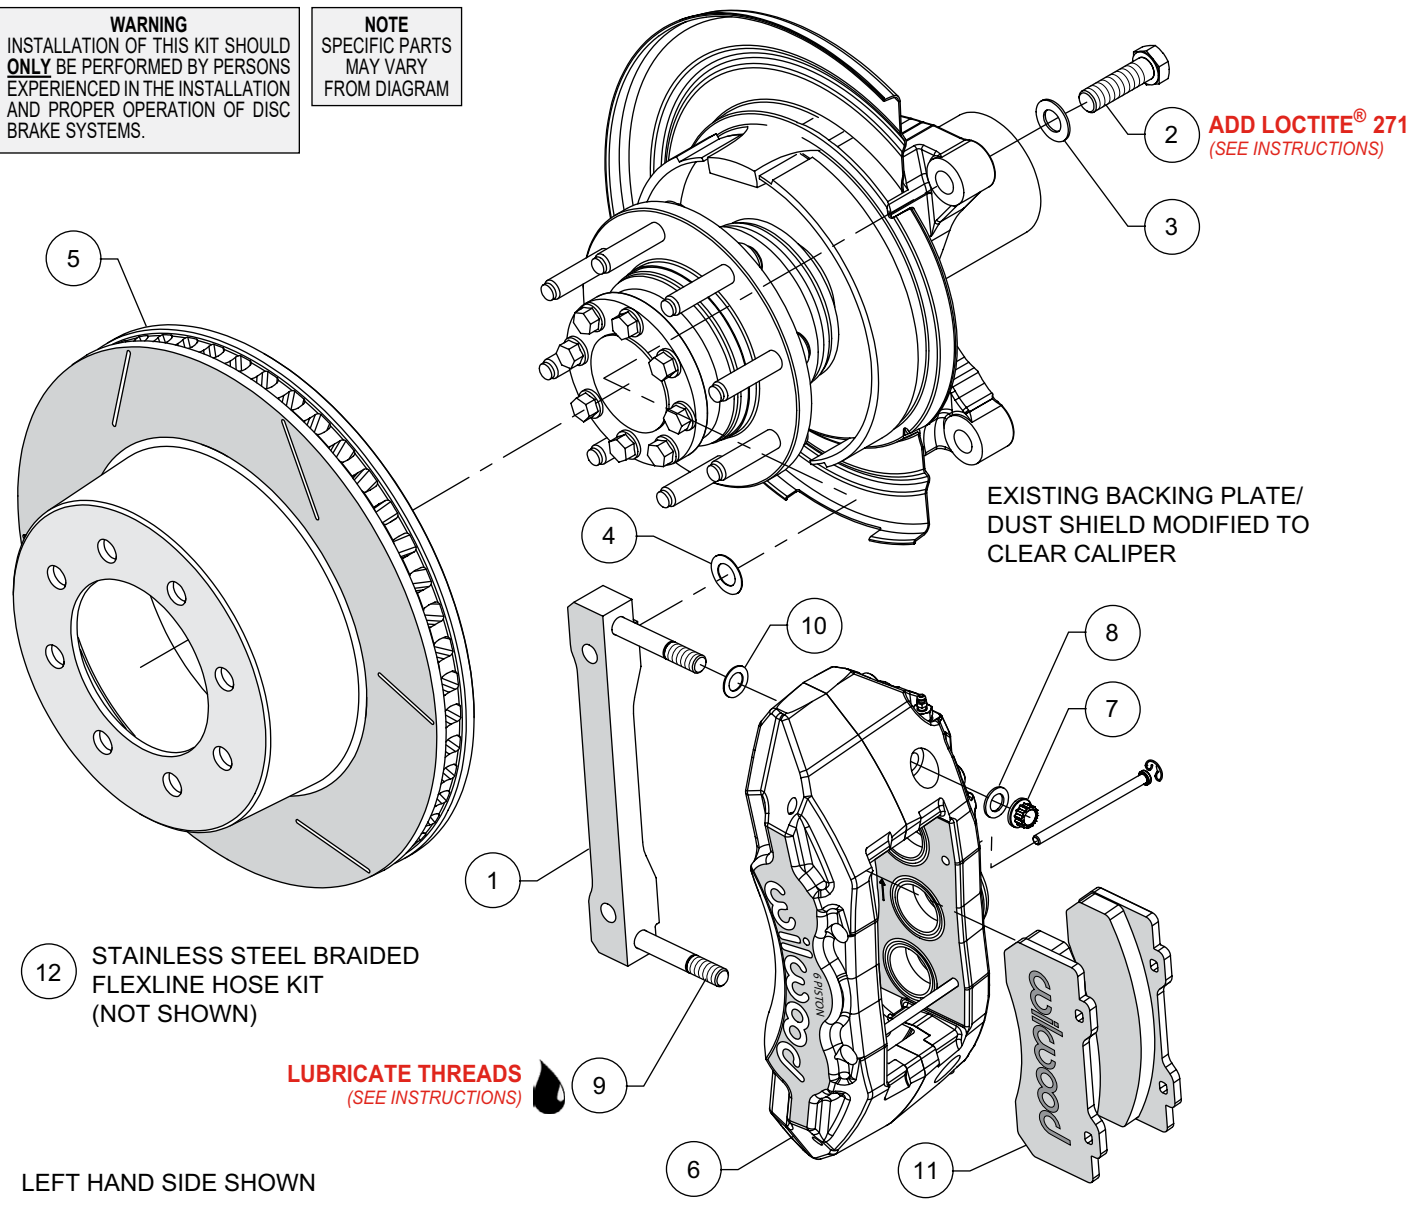
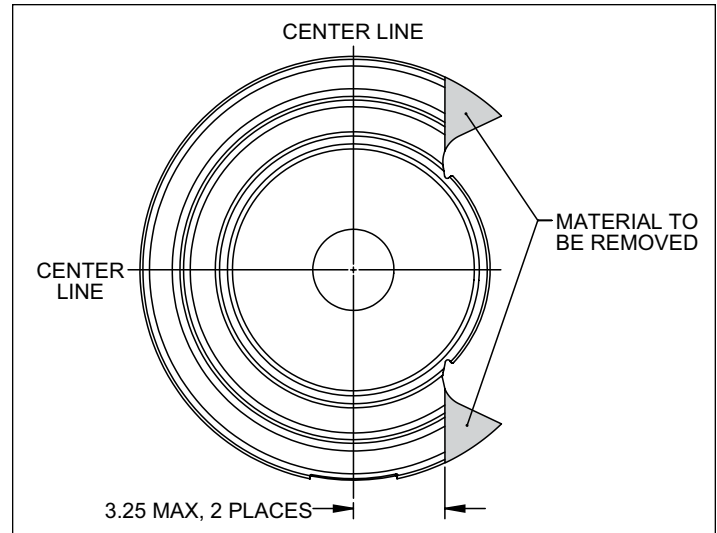

Figure 1. Typical Installation Configuration
Figure 3. Backing Plate / Dust Shield Modifications
- The rear backing plate/dust shield needs to be modified as shown in Figure 3 to clear the new Wilwood caliper mounting bracket (1). **NOTE:** It is recommended that the backing plate be removed before modification, and the modifications be performed by a qualified machine shop. After backing plate removal, cut the dust shield 3.25" maximum from the vertical center line as shown in Figure 3. Temporarily mount the caliper mounting bracket as shown in Figure 1. Examine the fit of the bracket against the OE caliper mounting tabs and verify that the bracket mounts flush.
NOTE: Numbers in parenthesis refer to the parts list and Figure 1 on the preceding pages.
- The caliper mount bracket (1) should initially be installed with clean, dry threads on the mounting bolts. Orient the bracket as shown in Figure 1 and Photo 1, and install using bolts (2) and washers (3). Initially place one .024 thick shim (4) on each bolt between the bracket and upright, Figure 1. Temporarily tighten the mounting bolts. **NOTE:** The bracket must fit squarely against the mount bosses on the upright. Inspect for interference from casting irregularities, machining ridges, burrs, etc. Later, after the caliper alignment has been checked, the mount bolts will be secured using red Loctite® 271.
- Slide the hat/rotor (5) onto the axle hub. **NOTE:** The hat must fit flush against the axle hub flange or excessive rotor run out may result. Install three lug nuts (finger tight) to keep the hat/rotor assembly in place while continuing with the installation.
- NOTE:** This kit contains distinct right and left hand calipers that must be mounted in a specific direction, as described below. Lubricate the caliper mounting studs (9) with lightweight oil. Initially place one .032" thick shim (10) on each stud as shown in Figure 1 and Photo 2. Mount the caliper (6) onto the bracket (1) using lock nuts (7) and washers (8), Figure 1. Ensure that the caliper is mounted so that the largest pistons are at the rotor exit end of the caliper, in relation to the direction of rotor rotation. Temporarily tighten the lock nuts and view the rotor through the top opening of the caliper. The rotor should be centered in the caliper, Photo 3. If not, adjust by adding or subtracting shims (4) between the bracket and the upright. Always use the same amount of shims on each of the two mounting bolts. Once the caliper alignment is correct, remove the bracket mounting bolts (2) one at a time, apply red Loctite® 271 to the threads, and torque to 120 ft-lb.